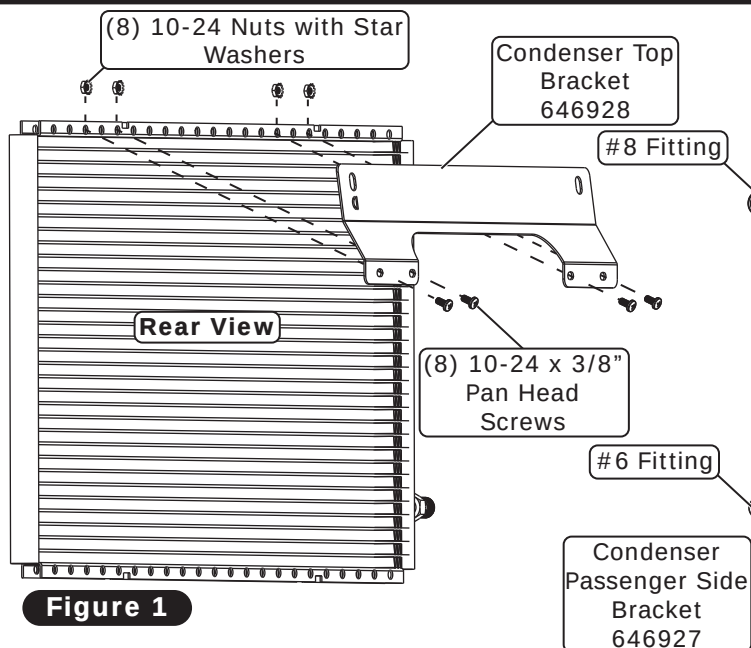

Figure 1
1. On a workbench, install the condenser top bracket onto the back of the condenser using (4) 10-24 x 3/8" pan head screws and (4) 10-24 nuts with star washers (See Figure 1, below). **NOTE: The condenser top bracket mounts to the outside of the flange through the 3rd and 5th holes from the left and the 6th and 8th holes from the right.**